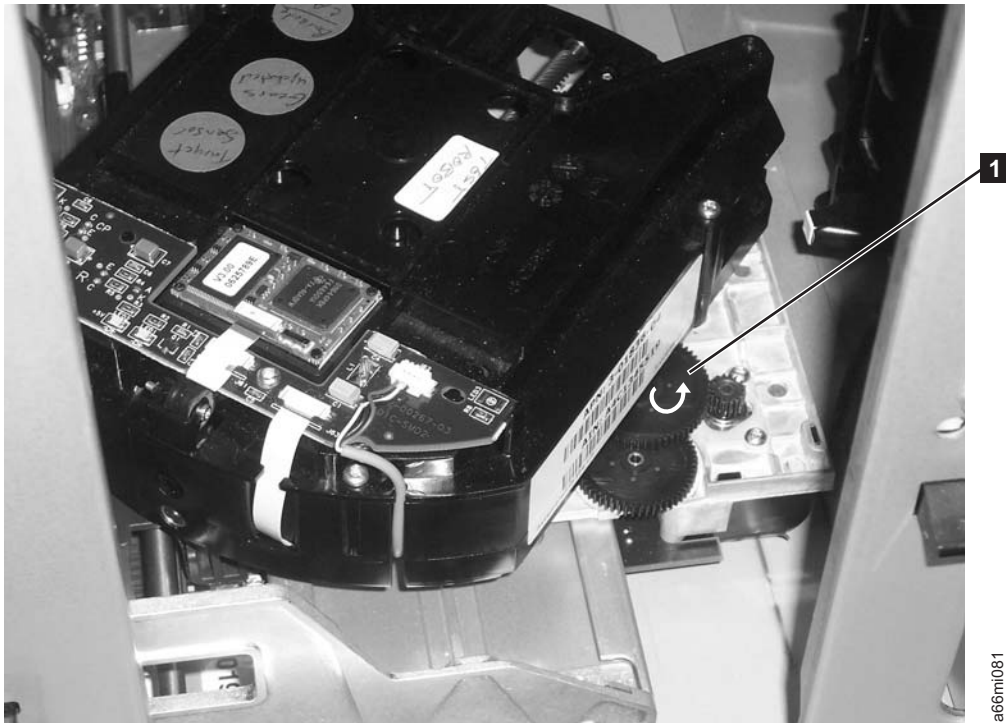
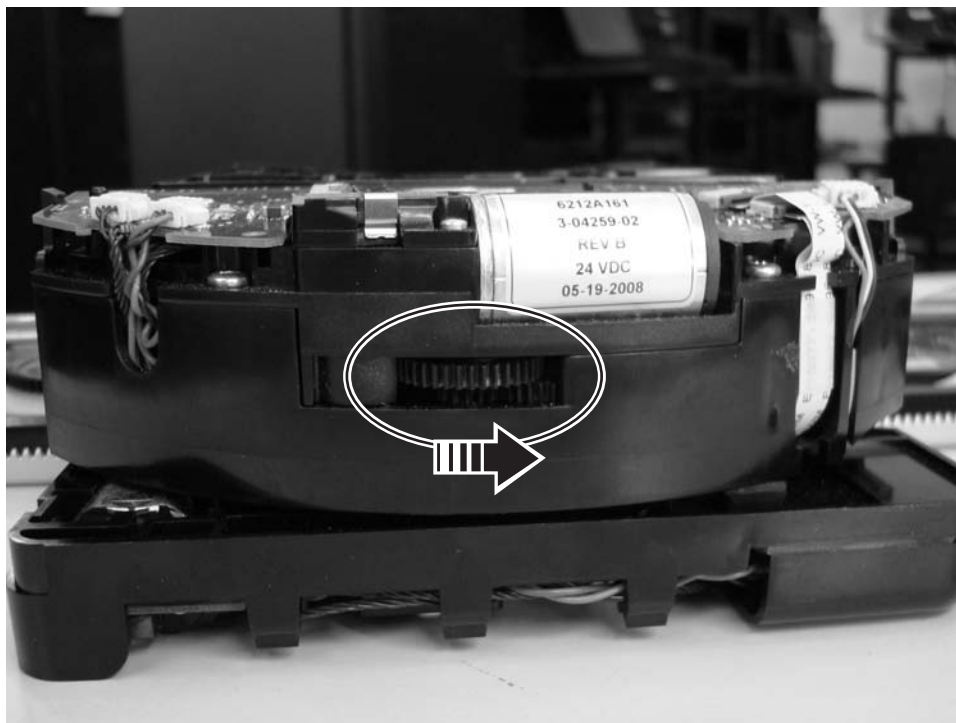

Figure 10-10. Picker rotated for drive gears access
Figure 10-11. Access the M2 Picker Thumbwheel
- In the Robot Assembly, access the three drive gears, as shown in Figure 10-10 on page 10-18.
- In the M2 Robot Assembly, access the thumbwheel on the front of the Picker as shown in Figure 10-11.
2. Rotate the gear (**1** in Figure 10-10 on page 10-18 or the arrow in Figure 10-11 on page 10-18) with your thumb or finger, in the direction shown by the arrow.